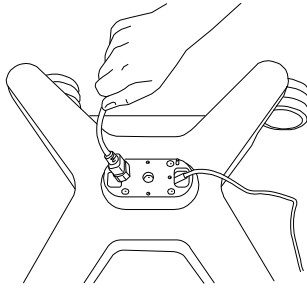

Figure 2 Insert AC power cord.
- Insert into the opening opposite the DC power supply cord (**A**). See Figure 2.